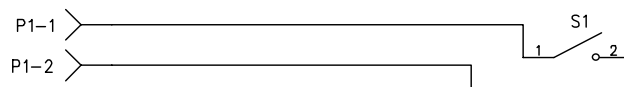

Figure 1-5. External Interlock
4. Figure 1-5 shows the wiring diagram for the switch. One wire runs from pin 1 of the connector to the normally open contact of the switch. The other wire runs from pin 2 to the common terminal of the switch. The switch is shown in the open position. This is the condition in which you do not want the laser beam to operate.